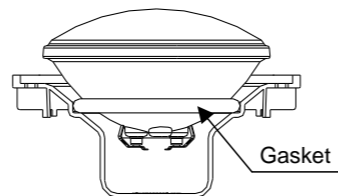

Figure 10
- Ø Connect the cable terminals to the lamp, using the 2 screws supplied with the lamp, see Figure 10.